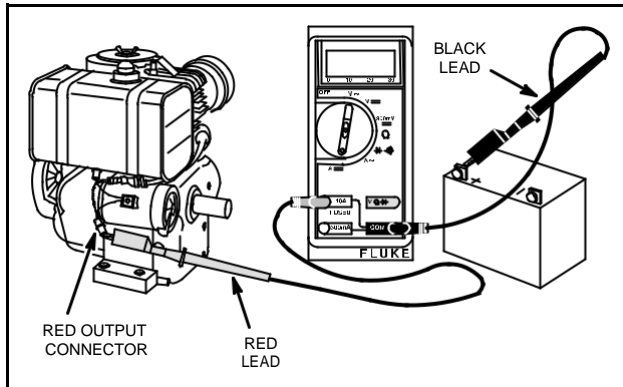

Fig. 776 – TESTING REGULATOR-RECTIFIER
4. Attach RED test lead clip to DC output terminal on regulator-rectifier, Fig. 776.